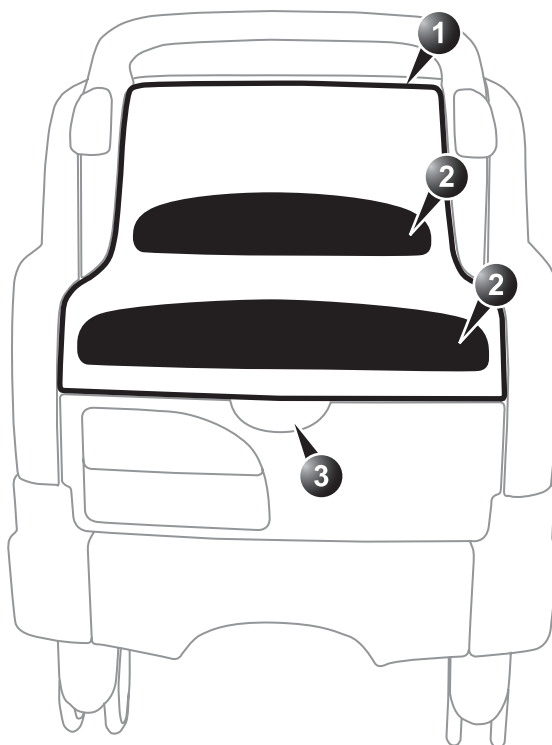

Figure 13-1: The air filter location
1. Grab the filter cover by the handle and pull away the cover from the unit (see Figure 13-1).